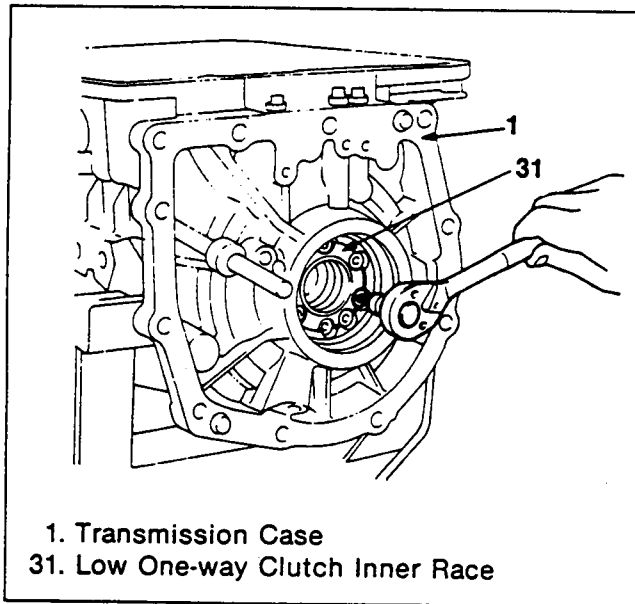

Figure 52. Low One-way Clutch Inner Race Bolt Removal
Low One-way Clutch Inner Race (Figures 52 and 53)
1. Remove the hexagonal bolts (8 pcs) and separate the inner race from the case (figure 52).